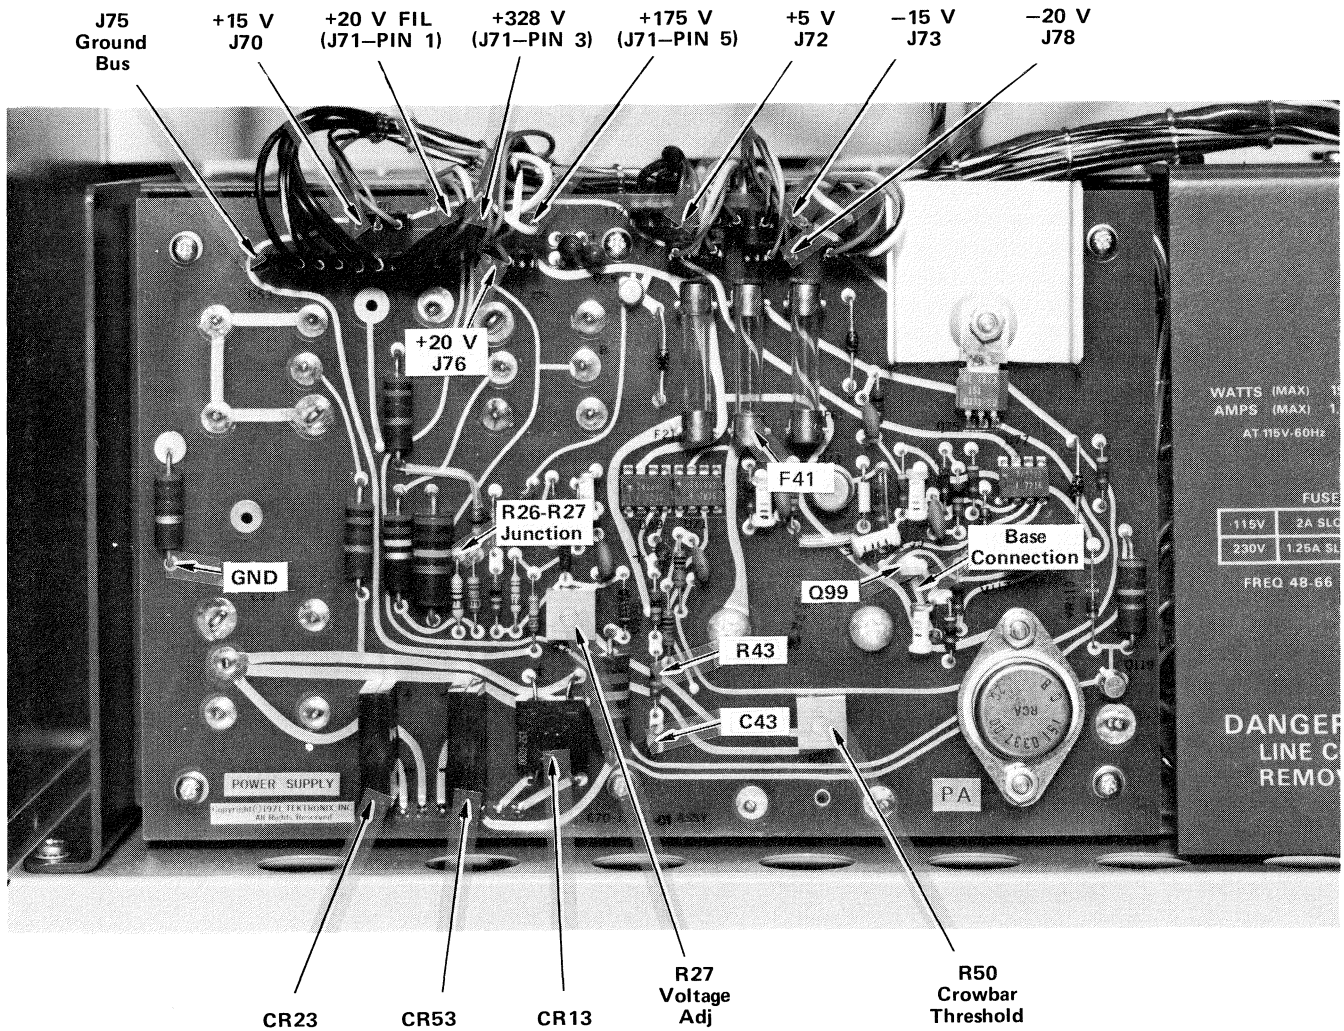

Fig. 4-5. Power Supply Adjustments and Test Points.
c. Using a voltmeter which has .05% or better accuracy at 15 V, adjust R27 to obtain +15.000 V at the +15 V test point indicated in Fig. 4-5. (Connect the voltmeter reference lead to the ground point shown in Fig. 4-5.)
d. Measure the various power supply voltages as listed in Table 4-1. Test points are shown in Fig. 4-5. Record all voltages in Table 4-2. (Make duplicate copies of Table 4-2 for future use.)
a. Check the voltage at the base of Q99 for 4.8 V. Adjust R50 as necessary to obtain that value. See Fig. 4-5 for component locations.
(1) Using a shorting strap, momentarily connect the R26-R27 junction to the R43-C43 junction, expecting a flash from F41. See Fig. 4-5 for locations. The voltage at the +5 V test point indicated in Fig. 4-5 should drop to 0 V.
(2) Turn the Terminal power switch OFF and disconnect the line cord.
(3) Replace F41 with a new 6 A slow-blow fuse. (If F41 does not open, troubleshoot the power supply. All plugs should be removed from the board and dummy loads substituted during troubleshooting; logic circuitry may otherwise be damaged. Instructions are given in the Servicing Section. Check plug locations before removing, to insure their proper replacement.)